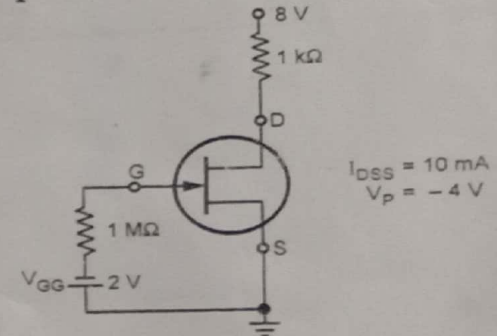

Fig. 3
b) For the circuit shown in the Fig. 3 Calculate :